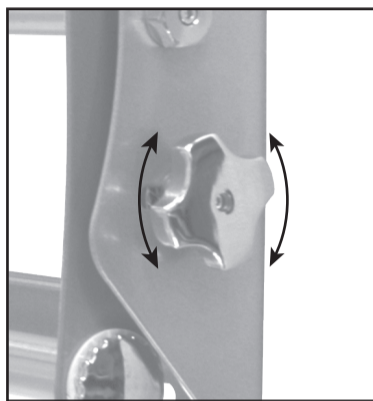

Fig. 7 - Loosen the adjustment knobs to change the tilt angle. There is one knob on each side of the mount.
4. To adjust the tilt position, have one person hold the display in position while another person loosens the two tilt adjustment knobs located on either side of the wall plate (Fig. 7). Once the knobs are loose, move the display to the desired angle. Re-tighten the knobs before releasing the display.